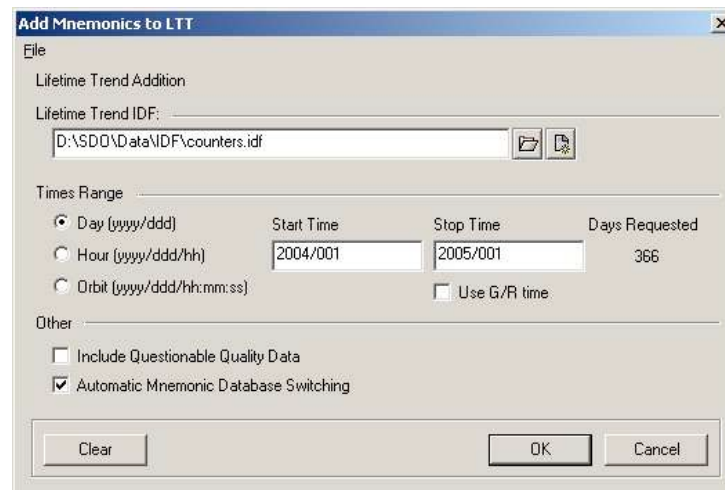

Figure 56: LTT Request Editor Screen
- Click the file folder icon  to select an Input Definition File (IDF) on the Request Editor screen (see Figure 56).
- Enter the job start time in the appropriate format (see Figure 56 for time formats). For Orbit LTT requests, select the times roughly corresponding to the orbit start and stop times.
Note: The IDF Editor is also accessible for report generation from the Request Editor Window (see Figure 46); for plot generation from the “Plots” | “Request Plots” page), and for the LTT Request Editor Screen, (see Figure 56) by clicking on the  icon on those screens.